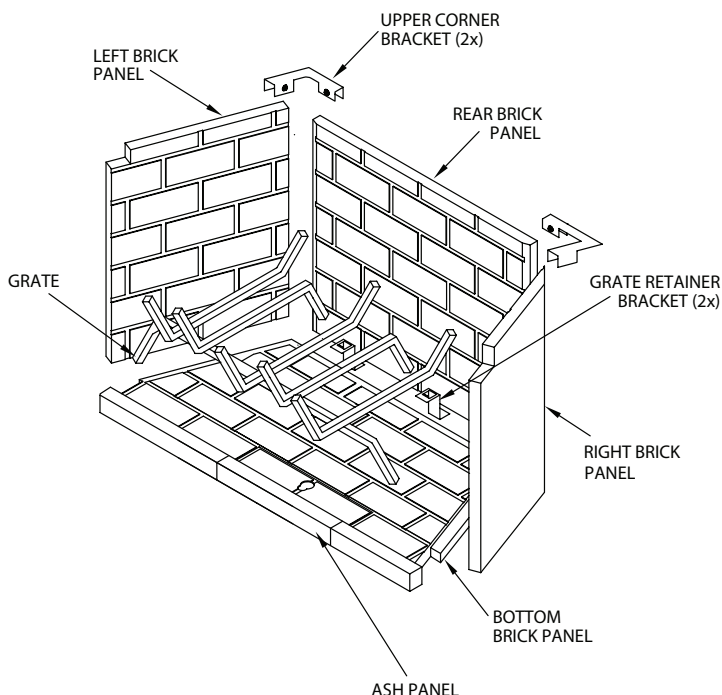

Figure 22 - Installing Refractory Panels
6. Install the upper corner brackets and tighten set screws (Figure 22).
7. Install grate by placing rear legs into slots in the grate retainers (Figure 22).